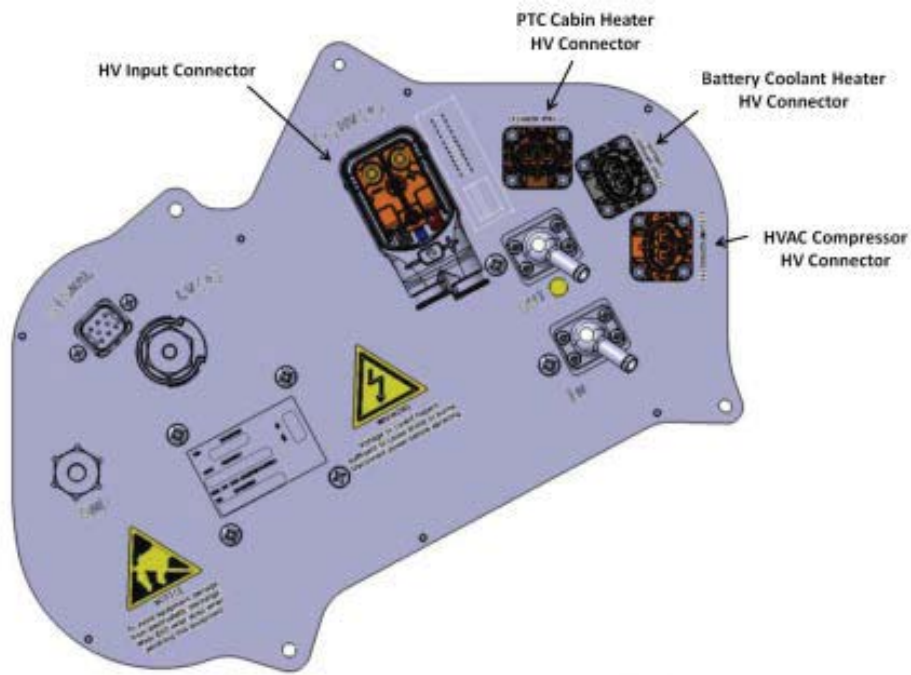

Figure 4 (DCDC connector face)
4. Check for a non-seated or non-latched HV connector (the red latch must be flush). For each of the 3 HV connectors, push and pull the connector completely in and out (Figure 4). Wiggle the connector in each direction while the connector is pushed in, and again while it is pulled out.